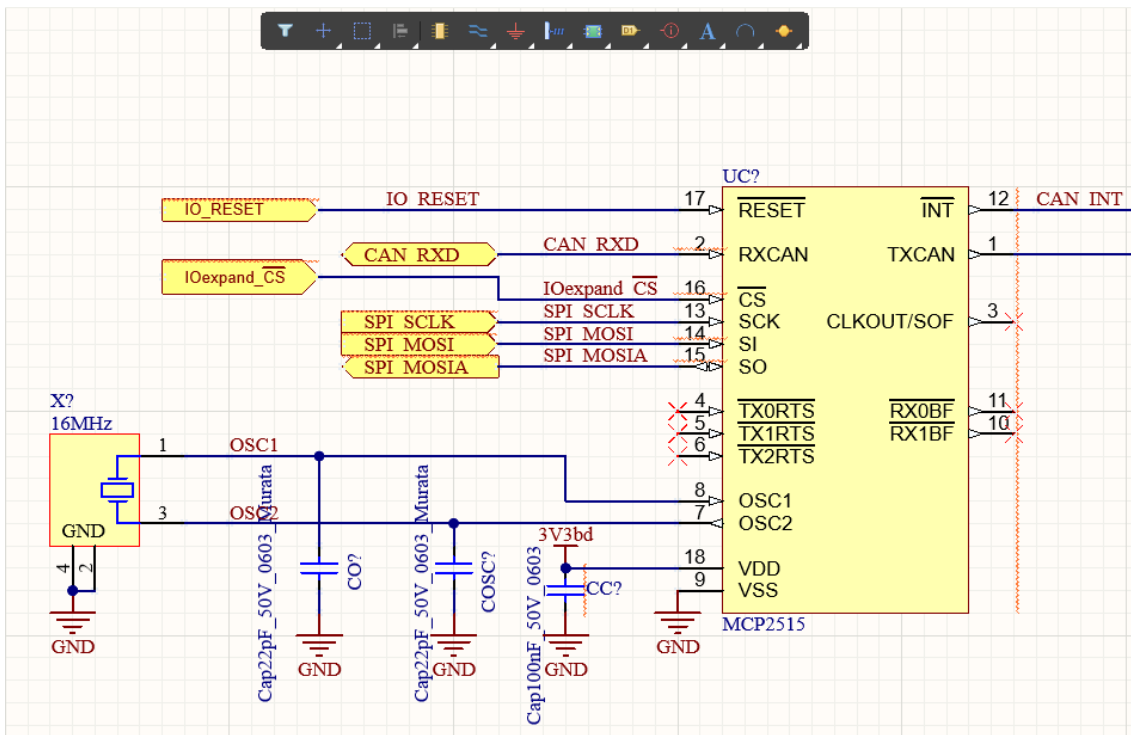

Figure 31. Finalized section of the CAN\_Interface schematic
47. Place ports using methods described earlier, on `CAN_RXD`, `SPI_SCLK`, `SPI_MOSI` and `SPI_MOSIA` wires as shown in Figure 31 below.